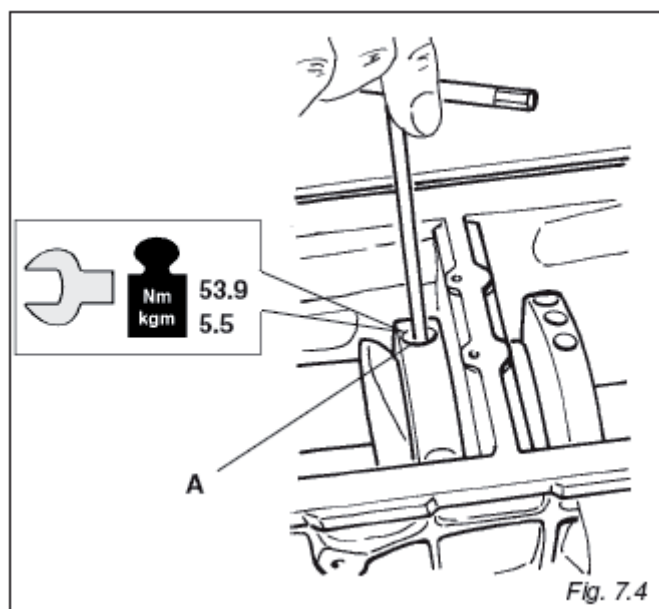

Fig. 7.4
7.4 CENTRAL MAIN BEARINGS (FIG. 7.4)